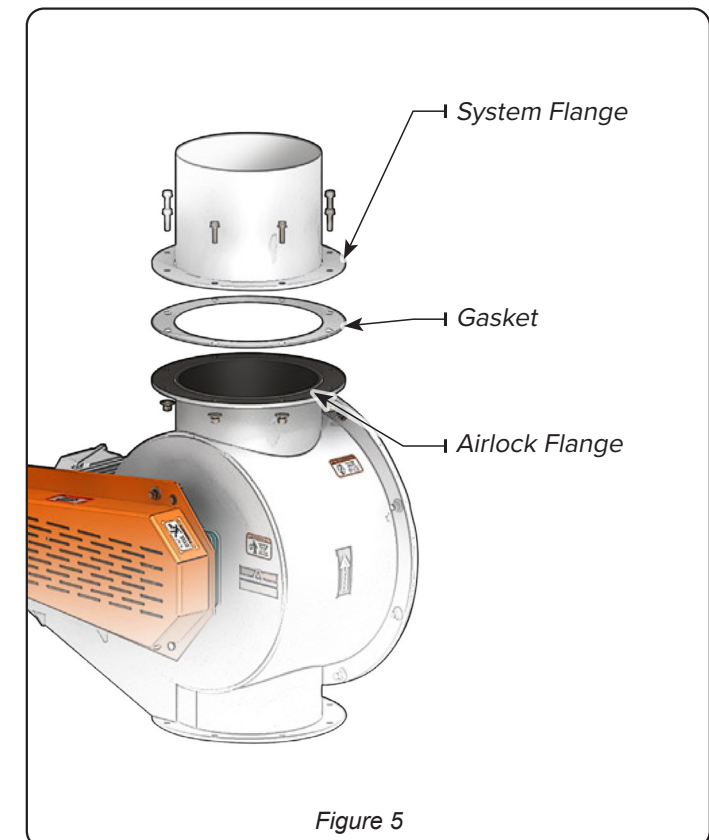

Figure 5
- If the airlock will be floor mounted, secure to the floor using approved anchors and then attach the airlock mounting flange to the system flange using fasteners and supplied gasket(s) (Figure 5).
- If the airlock connects between two pieces of equipment, and is not floor mounted, attach the airlock flanges to system flanges using fasteners and supplied gaskets as shown (Figure 5). The airlock should be attached to the sturdiest equipment first.